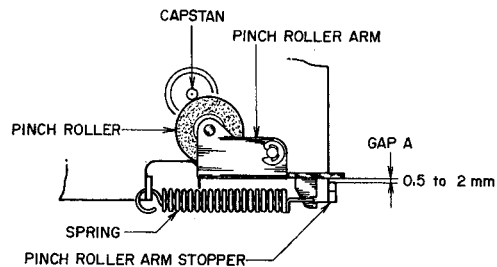

Fig. 6-9
c) PINCH ROLLER PRESSURE (Refer to Fig. 6-9)